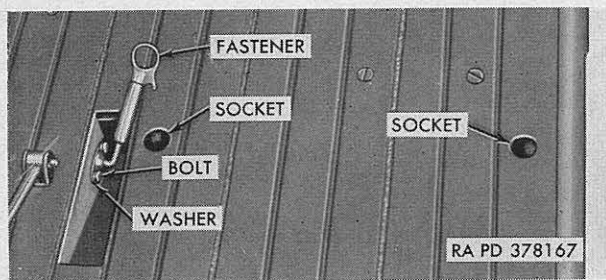

Figure 95. Spring cylinder fastener for seat back.
### 128. Seat Cushion Replacement (fig. 95)
- (1) *Removal.* Unhook spring cylinder fastener from socket on seat back. Pull seat back up out of sockets in platform and eyelets in flap on rear lower corner of rear half seat cushion. Separate rear half seat cushion from front half as directed in a(1) above.
- (2) *Installation.* Position rear half seat cushion with eyelets in flap on rear lower corner aligned with sockets (fig. 95) in platform. Push two legs of seat back through eyelets down into sockets
*a. Removal.* Unhook spring cylinder fastener (fig. 95) from socket on seat back. Remove two hex nuts (fig. 61) and lockwashers from bolts (fig. 95) securing fastener to platform, and remove fastener from platform. Remove two bolts from fastener, and plain washers from bolts.
ener as shown in figure 95. Install  $\frac{1}{4}$ -inch plain washers under boltheads, push  $\frac{1}{4}$ -20NC x  $\frac{5}{8}$  hex-head bolts through holes in fastener and platform and secure on underside of platform with  $\frac{1}{4}$ -inch lockwashers (fig. 61) and hex nuts.